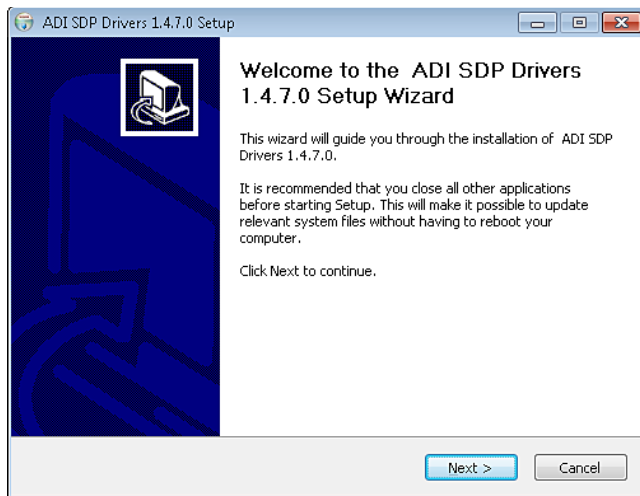

Figure 10. Beginning the Drivers Installation
1. With the **EVAL-SDP-CH1Z** system demonstration platform board still disconnected from the USB port of the PC, ensure that all other applications are closed, and then click **Next** (see Figure 10).